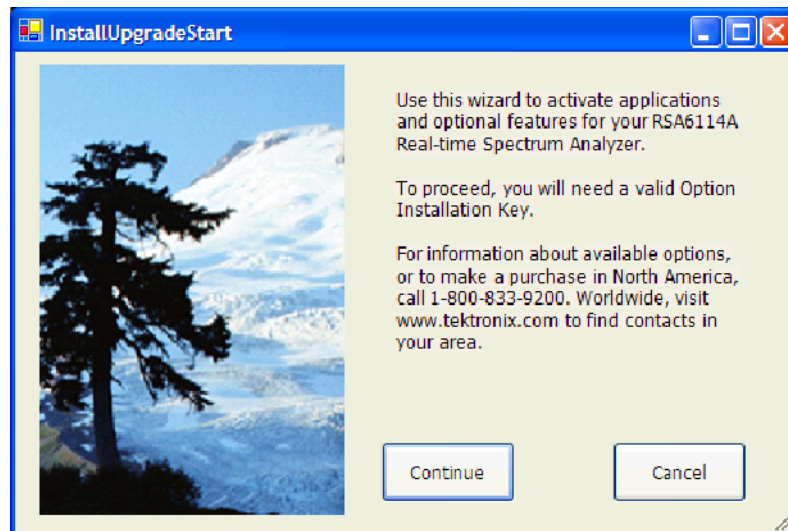

Figure 8: Starting the option upgrade
2. In the spectrum analyzer application, select **Tools > Install Upgrades**. See Figure 8.